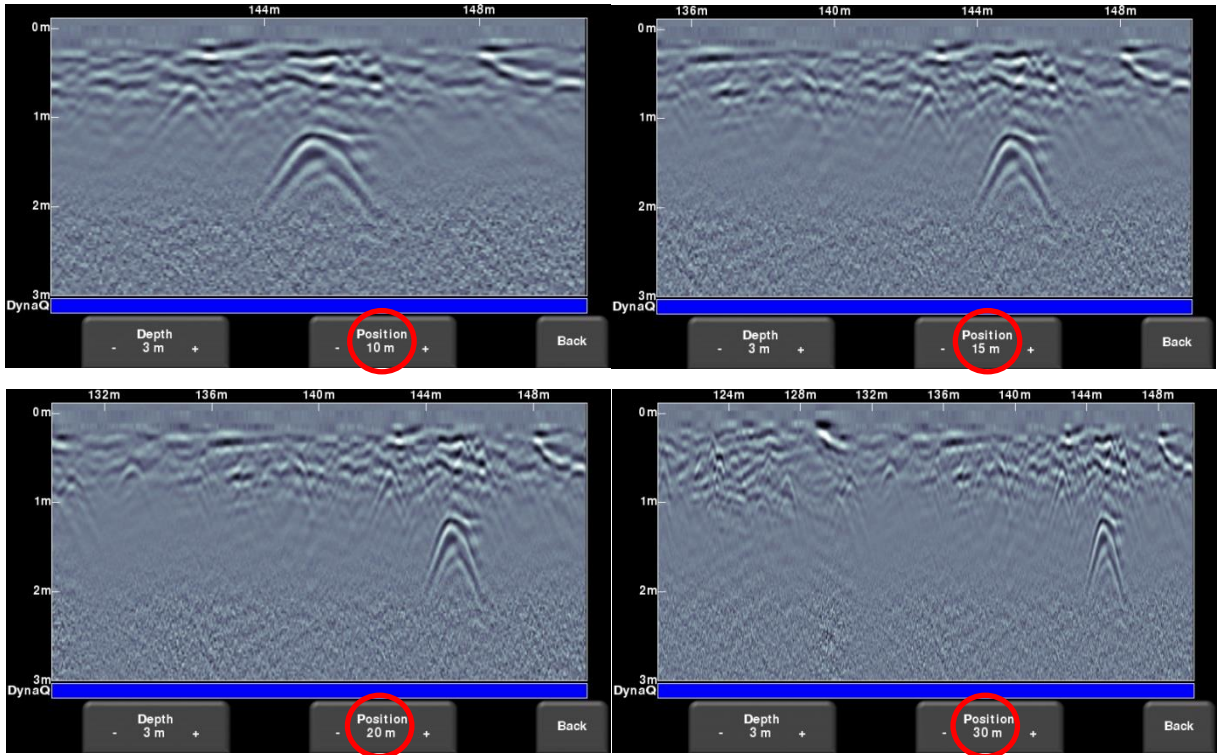

Figure 8-7: Varying position, or horizontal scaling
- **Position** – Pressing + and - under the **Position** button allows you to change the length of data displayed on a single screen. This is also known as horizontal scaling. The pre-set values range from 10m to 30m (25' to 100'), see Figure 8-7.